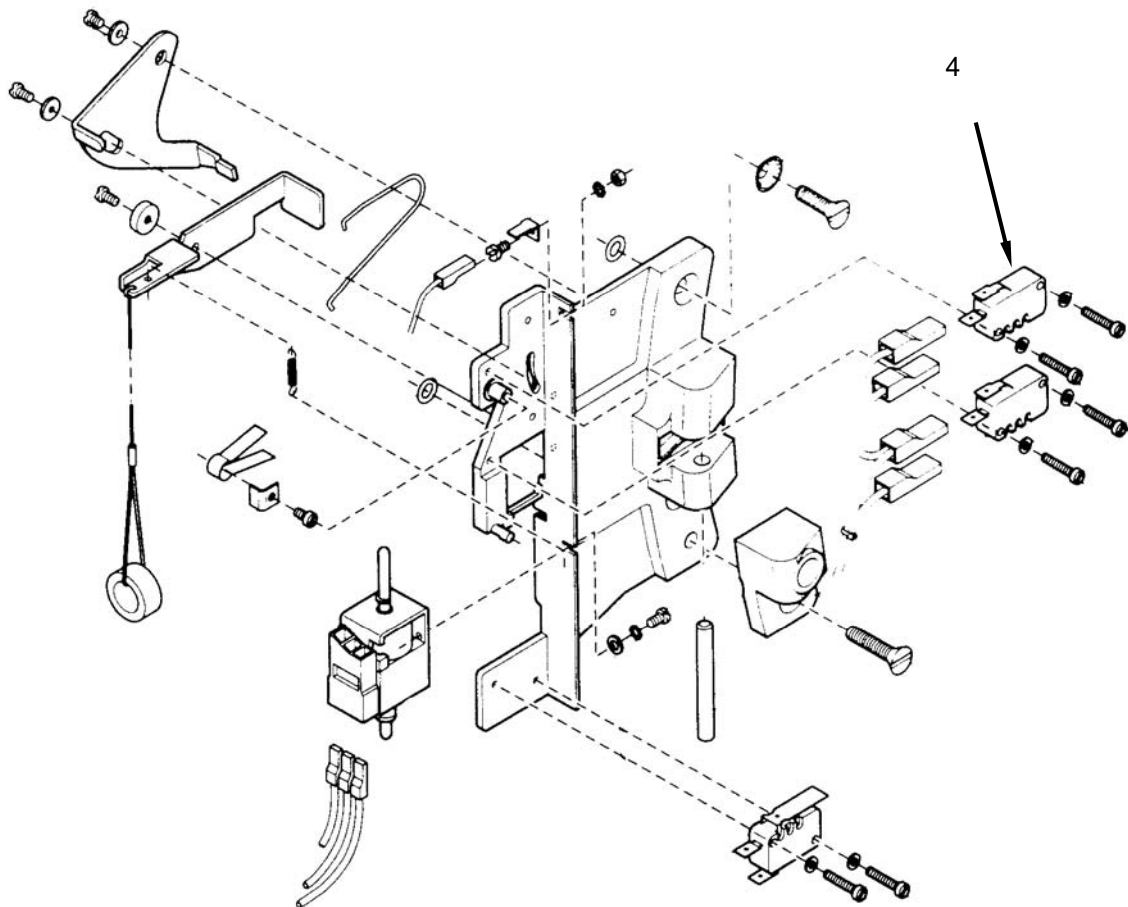

Figure 2. Test the Door Latched Switch.
2. Cut the wire ties (**Figure 2, Item 1**) retaining switch wiring to the washer frame. There may be one or two wire ties.
4. Remove screws retaining door strike assembly (**Figure 2, Item 2**) and remove door strike assembly.
5. Tag and disconnect wiring from latched switch (**Figure 2, Item 4**).
6. Use an ohmmeter to check for 0 resistance when the switch (**Figure 2, Item 4**) is closed.
7. Use an ohmmeter to check for infinite resistance when the switch (**Figure 2, Item 4**) is open.
8. Replace a switch (**Figure 2, Item 4**) that fails either test.
9. Connect wiring to switch (**Figure 2, Item 4**) as tagged.
10. Install door strike assembly (**Figure 2, Item 2**) and retain with screws.
11. Retain wiring with wire tie (**Figure 2, Item 1**).